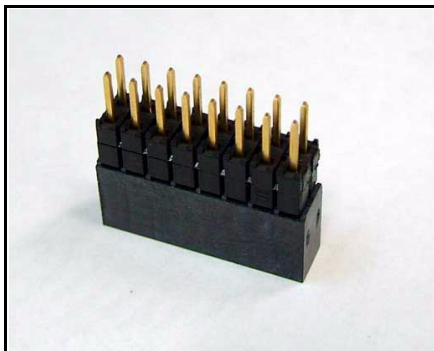
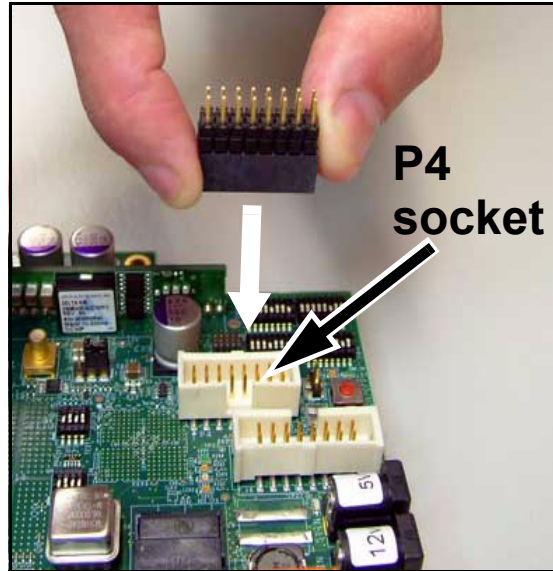

Figure 5-5. Interconnection header
Figure 5-6. Inserting interconnection header
1. Insert the interconnection header into the 16-pin header socket for firmware programming (P4) (see Figure 5-5 and Figure 5-6 on page 5-9 for photos of the header and how to insert it, and see Figure 5-7 on page 5-20 for a general view).